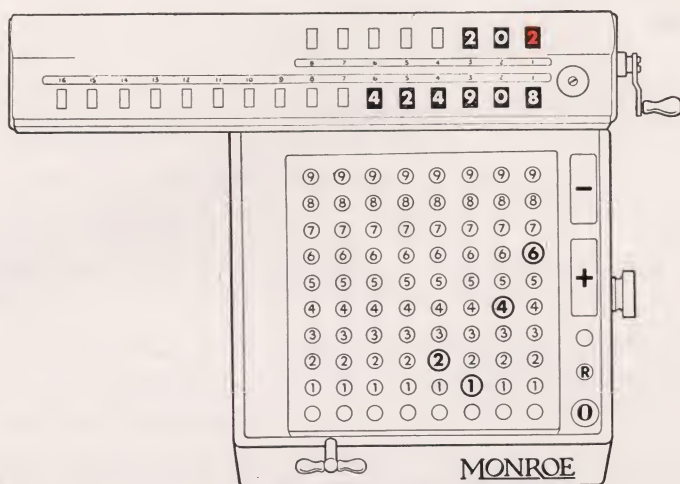

Figure 13
Step 2—Then move the carriage to the left two places so that it is in the “1” position. With the minus bar subtract twice. The answer, 424908, will then appear in the lower dials. In the upper dials will be 20², i.e., 200 less 2. See Figure 13.